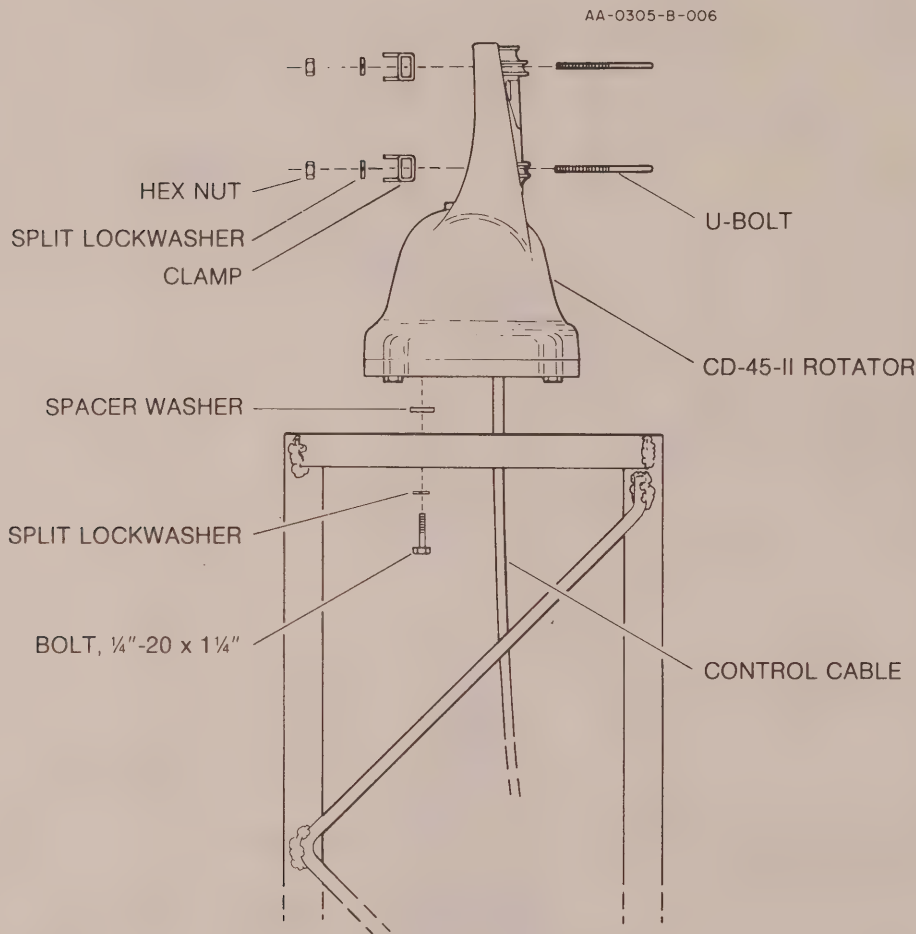

Figure 8
2. The rotator is attached to the tower plate by means of four (4) bolts and lockwashers (see Figure 8). Spacer washers must be used between the rotator and plate for clearance of the rotator housing bolt heads. The flat tower plate must be drilled in four (4) places using the template provided with this manual unless the tower plate is already properly drilled. A fifth hole must be drilled or cut to clear the control cable.
4. Assemble the mast and antenna to the top of the rotator using the U-bolts, nuts and lockwashers through the rotator and clamps as shown in Figure 8. The maximum mast diameter that may be used is $2\frac{1}{16}$ " O.D.. Turn the antenna by hand until it points South then tighten the U-bolts securely.